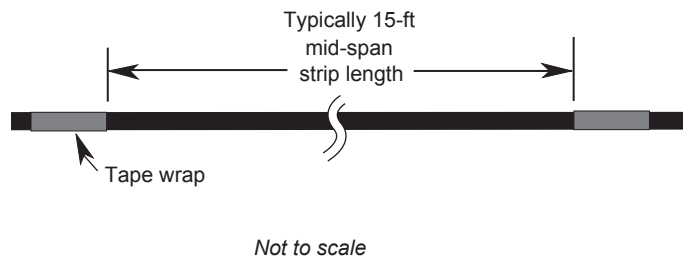

Figure 12
- Step 1:** Identify the location to access the jacket for mid-span cable entry (typically 15-ft in length) and mark each end with a wrap of tape (Figure 12).